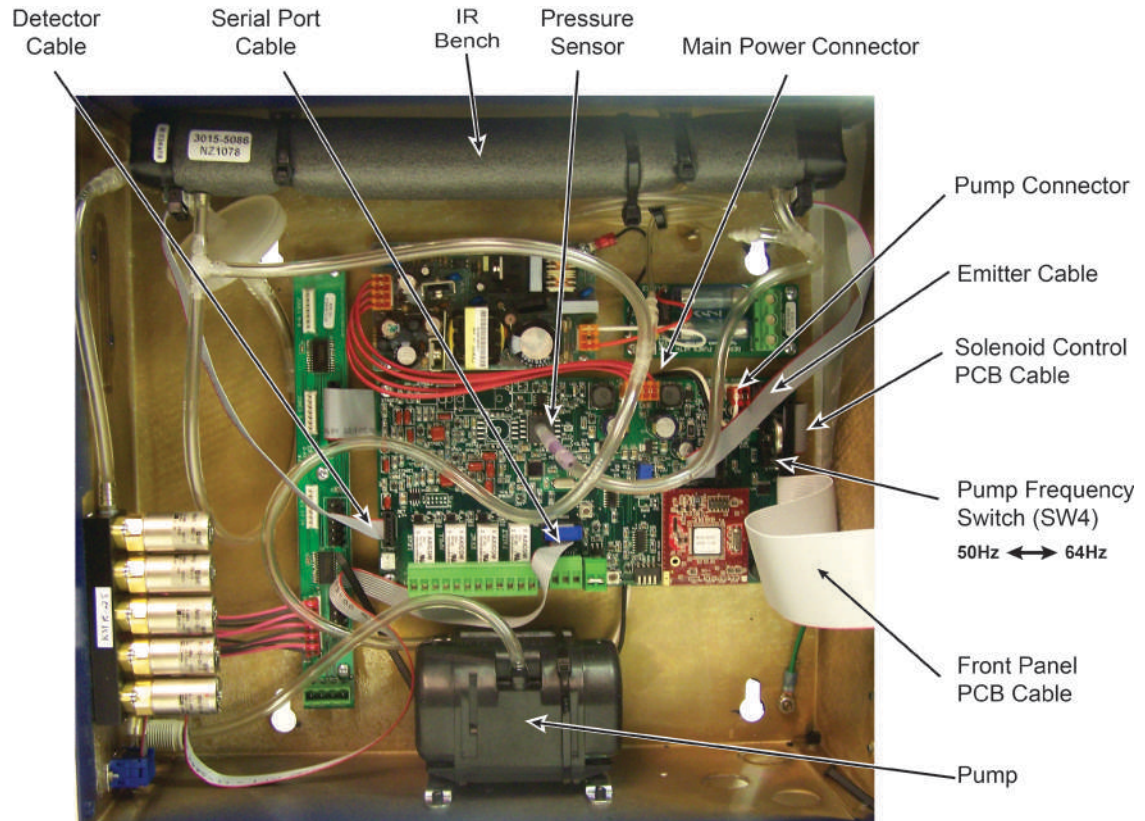

Figure 2. Multi-Zone Components
- Take time to familiarize yourself with the internal components displayed in Figure 2.